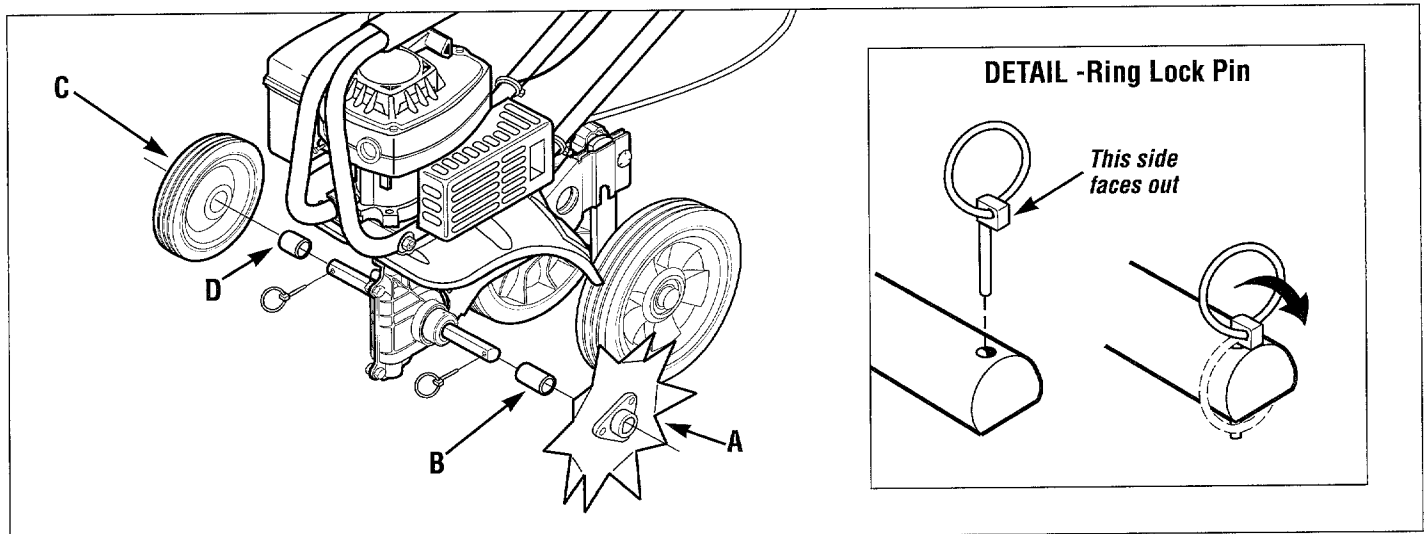

**Figure 5: Remove ring lock pins and tines from both sides of the tine shaft. Keep left and right-side tines separated and marked for easier reinstallation.**
- Flip open the ring on the ring lock pins and remove the ring lock pin on each tine shaft (see Figure 5 and DETAIL, Figure 6). **IMPORTANT: The ring lock pin is under spring tension -- wear gloves when removing or replacing the ring lock pin to protect your fingers.**
tions.) Refer to Figure 5 and to Figure 15 for detailed tine position information. Put the four tines aside.